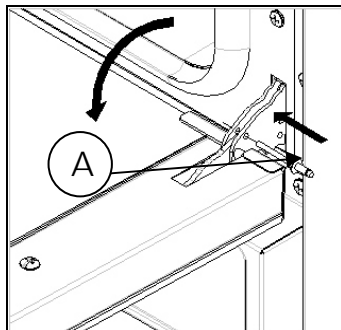

Fig. 3
- insert the equipped plugs in the "A" holes on the hinges (Fig. 3);